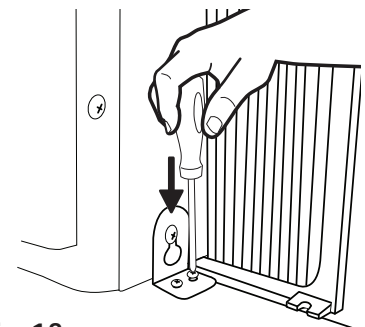

Fig. 18
5. Slide the side bracket over the screw. The side bracket should be resting on the window sill. (See Fig.18)
8. Using two (2) 1" wood screws, attach the side bracket to the window sill.